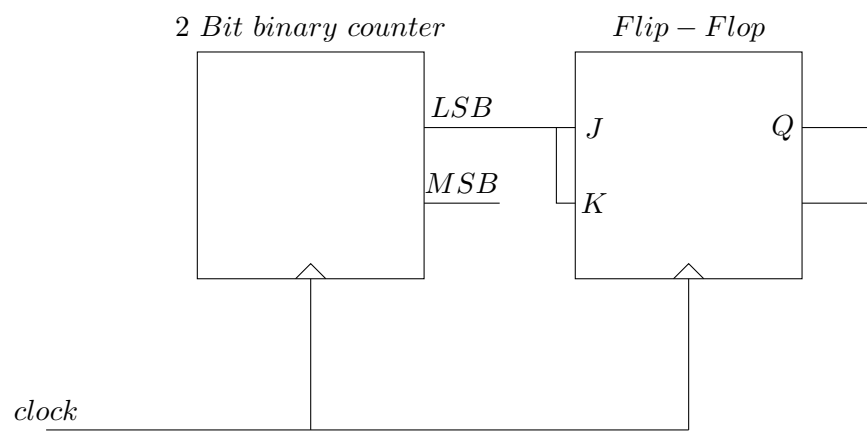

Figure 6.6:
5. For the circuit shown in Fig. 6.6, the clock frequency is f_0 and the duty cycle is 25%. For the signal at the Q output of the Flip-Flop,